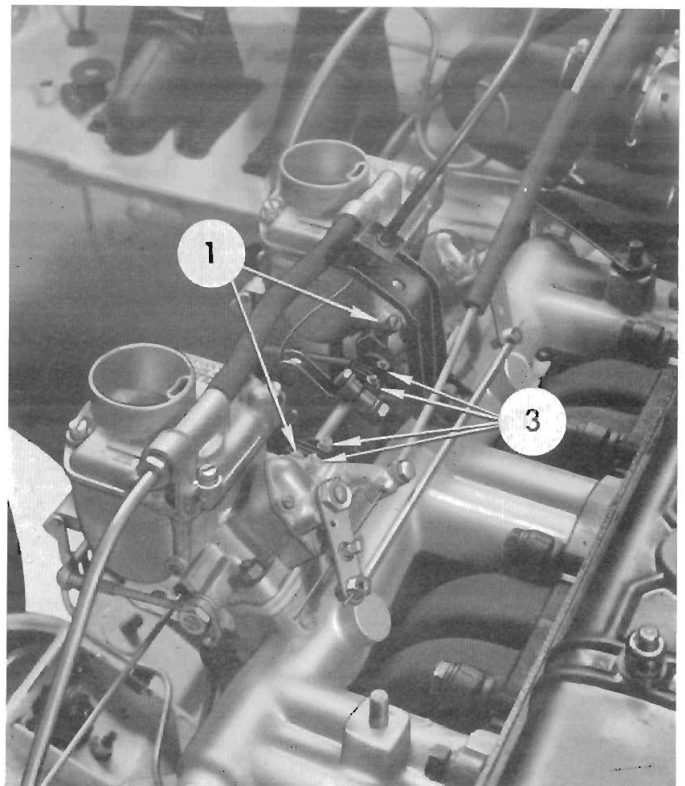

Fig. 25. L.H. view of carburettors, showing flexible linkage clamping bolts (3) and throttle stop screws (1)
Slacken the clamping bolt (3) Fig. 25 on the flexible linkage between the carburettors and, whilst the engine is warm, adjust the carburettors as follows:
- (a) Unscrew both slow running screws (1) Fig. 25 and ensure that the throttles are closed by manual pressure on the screw heads. Open both throttles an equal amount by rotating the screws (1) one turn clockwise.